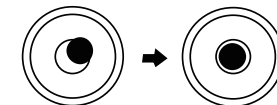

Fig.4
(4)Turn footscrews and centre the bubble.(Fig.4)